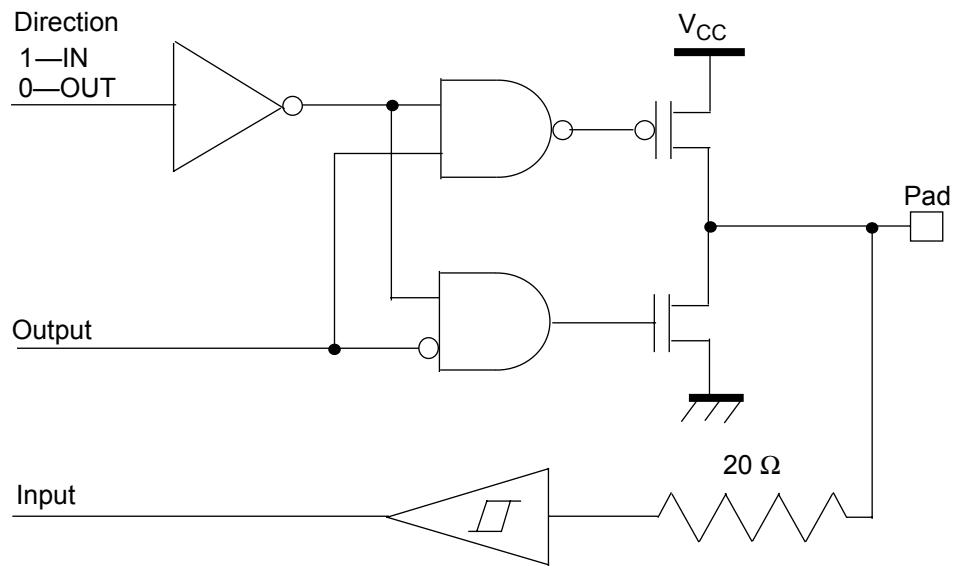
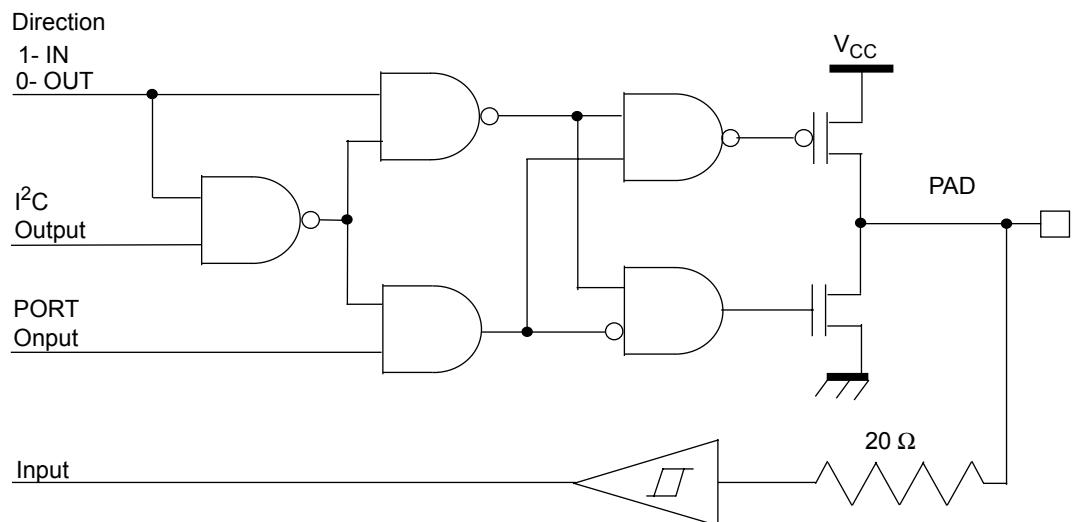
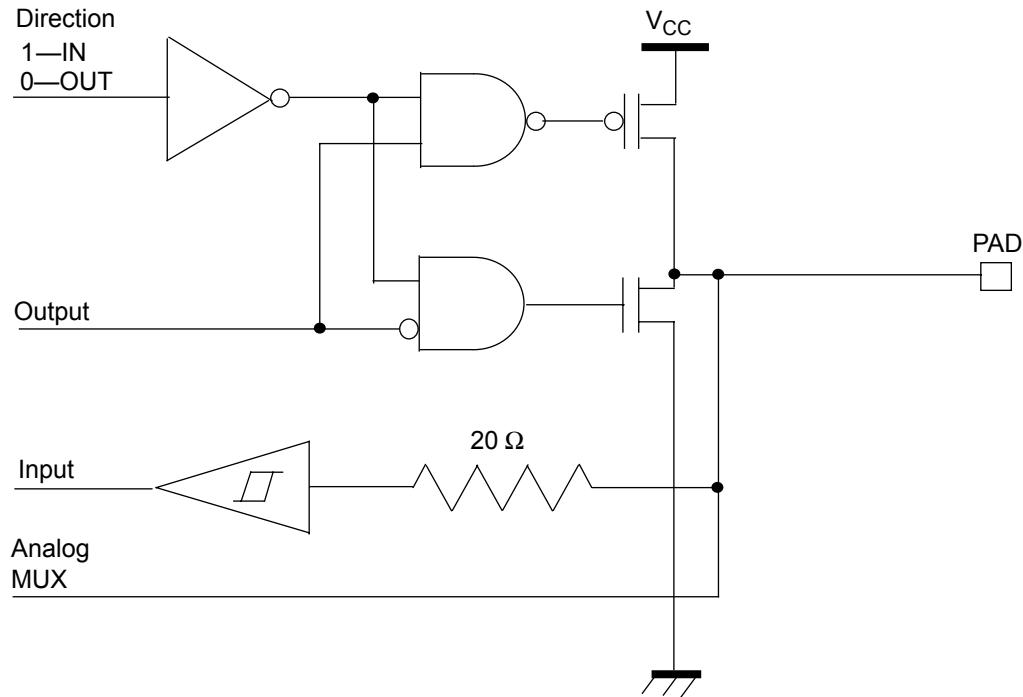

Figure 10 Bidirectional Port Pins
Figure 11 Bidirectional Pins Multiplexed with I2C Port
Figure 12 Bidirectional Pins Multiplexed with ADC Inputs
Port 0 and 1 directions are defined in R6(0) and R7(0), respectively. R4(0) and R5(0) are data registers for both Ports 0 and 1. Figure 10, Figure 11, and Figure 12 indicate I/O configuration and sharing with other functional units.